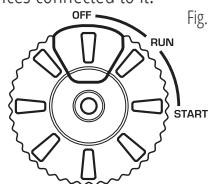

Fig. 8
3. Turn the multifunction switch knob to the OFF position (see Fig. 8), or switch the ENGINE SWITCH to the OFF position (depending on your model).